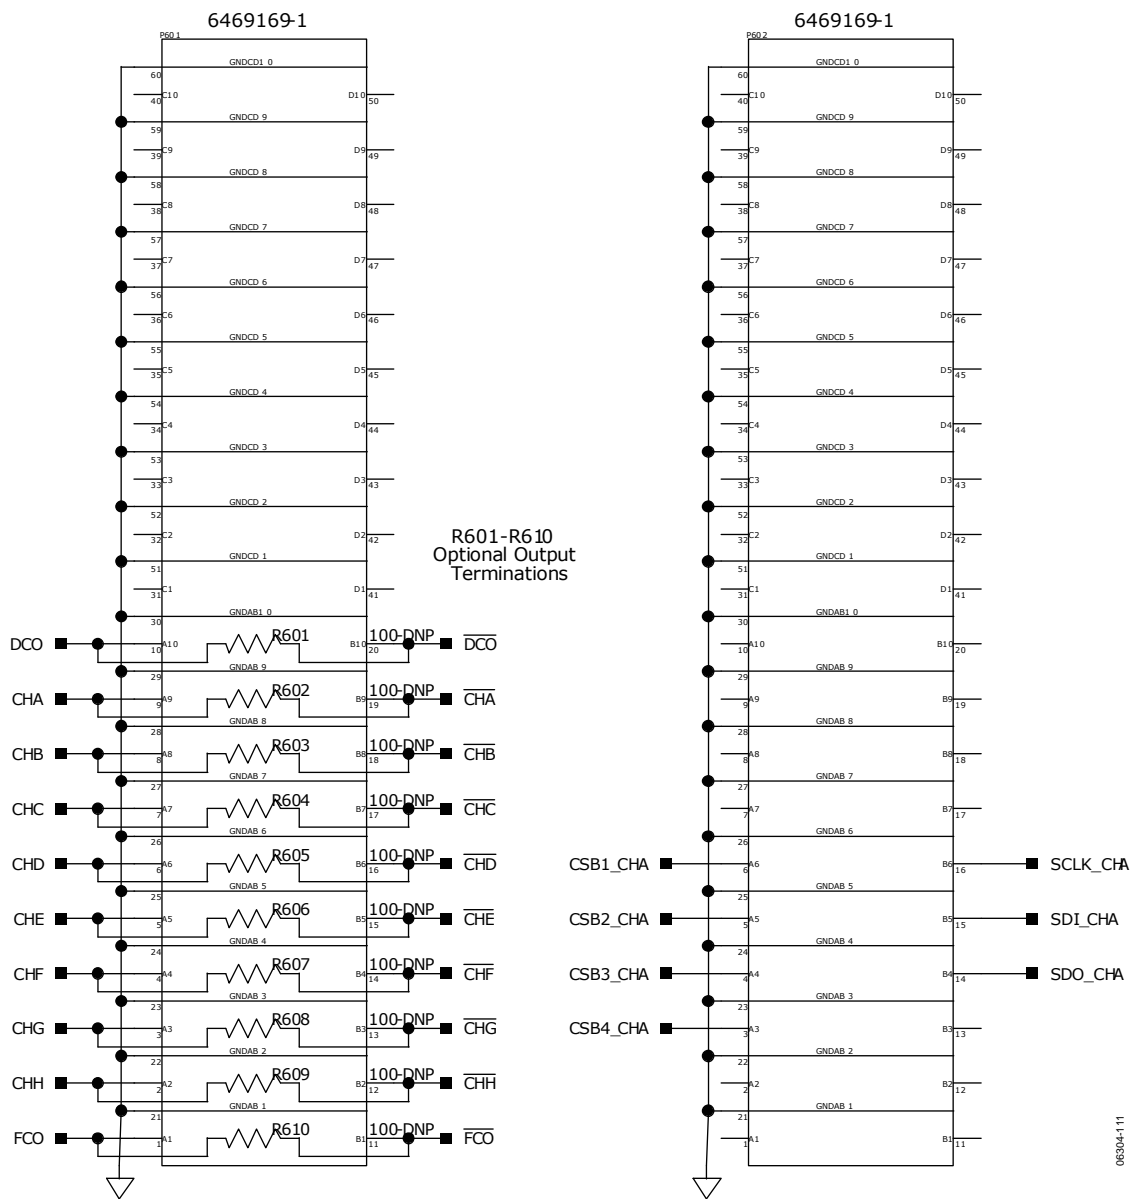

Figure 80. Evaluation Board Schematic, Digital Output Interface
- **DOUTx+, DOUTx-:** If an alternative data capture method to the setup described in Figure 80 is used, optional receiver terminations, R601 to R610, can be installed next to the high speed backplane connector.